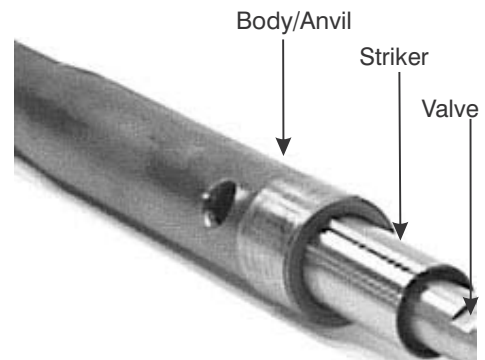
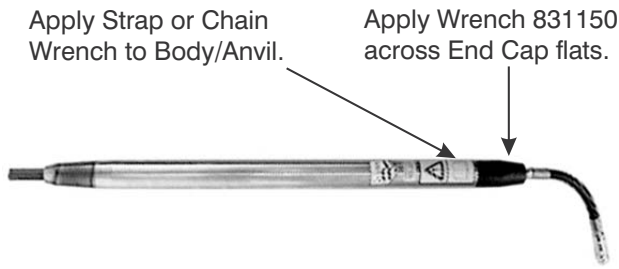

Figure 9-28. Insert Valve into Striker.
Figure 9-29. Fasten End Cap to Body/Anvil.
5. Insert the Valve (3) into the Striker (2) and thread the End Cap (16) into the Body/Anvil (1). See Figure 9-28.
6. Hand tighten the End Cap (16) to the Body/Anvil (1).
7. Place the Hole-Hog on a level surface. Holding the Body/Anvil (1) with a strap wrench, use wrench P/N 831150 from the Tool Kit to tighten the End Cap (16), as shown in Figure 9-29.